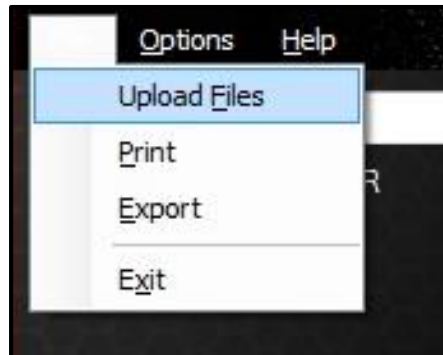

Figure 6.7-2: Upload Files from File Menu
9. Select **"Upload File"** from the File drop down menu (Figure 6.7-2).